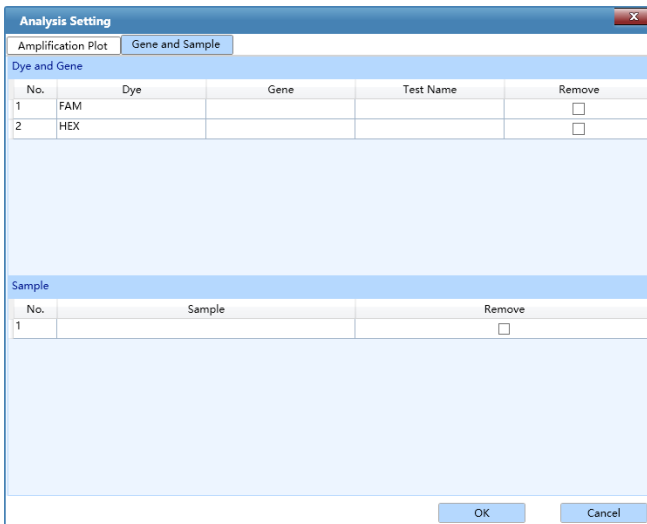

Figure E-11.2 Abs Quant Analysis Setting Interface – Gene and Sample Tab
- 2. Gene and Sample** tab: Users can set the dye, gene and sample required for the analysis of the current experiment in the gene and sample interface, as shown in figure E-11.2.